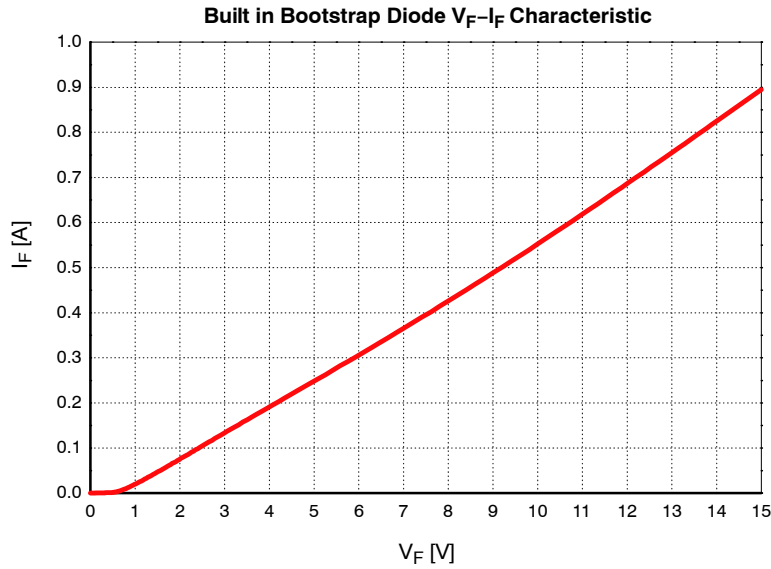

Figure 2. Built-in Bootstrap Diode Characteristics (Typical)
9. Built in bootstrap diode includes around 15Ω resistance characteristic. Please refer to Figure 2.